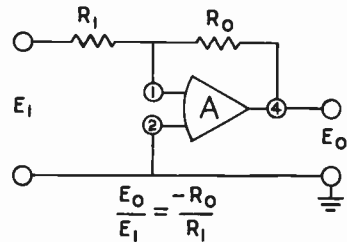

Fig. 17. Inverting amplifier.
The inverting amplifier appears in Fig. 17. This circuit and its many variations form the bulk of commonly used operational amplifier circuitry. Single ended input and output versions were first used, and they became the basis of analog computation. Today's modern differential input amplifier is used as an inverting amplifier by grounding pin (2) and applying the input signal to the inverting input terminal.